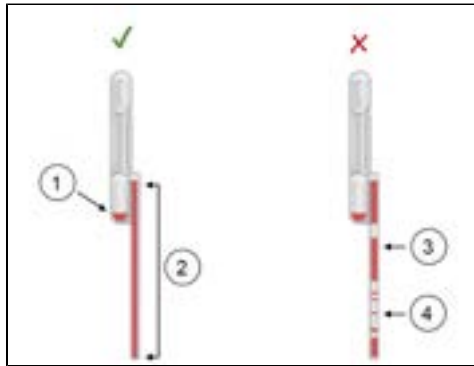

Figure 5. Xpert HCV Test 100 µL Transfer Pipette (Correct and Incorrect Use)
9. **Check that the pipette does not contain air bubbles (see Figure 5). If air bubbles are present, dispense blood back into the microtainer, keeping the pipette tip above the surface of the liquid while dispensing, and repeat this step with a new pipette. Note that air bubbles in the pipette may trigger the instrument to abort the run due to insufficient volume added to the cartridge.**
Important Make sure NOT to aspirate air into the pipette after the pipette has been lifted from the blood surface in the microtainer, as this can lead to insufficient blood volume (see Figure 5). Do NOT pour the specimen into the chamber! Discard the pipette appropriately after use.